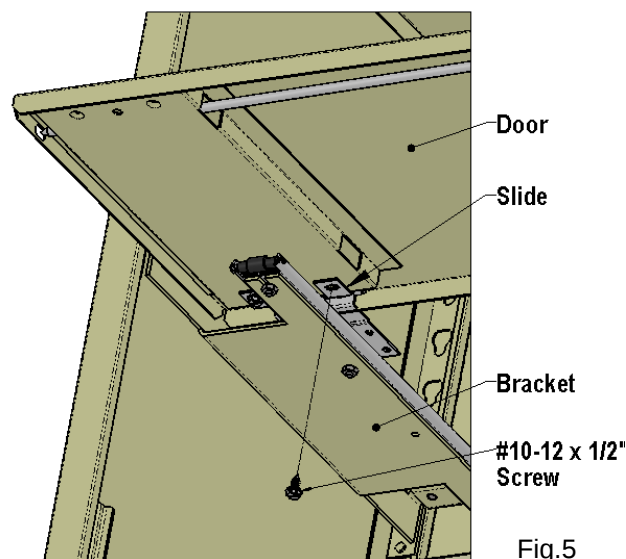

Fig.5
4. Attach the door panel to the slide using (2) 10-12 x 1/2" hex washer head screw. Push the slides and door part way back into the shelving unit to help support the door while inserting the screw in the door. Do not tighten screw all the way. (See Fig.5)